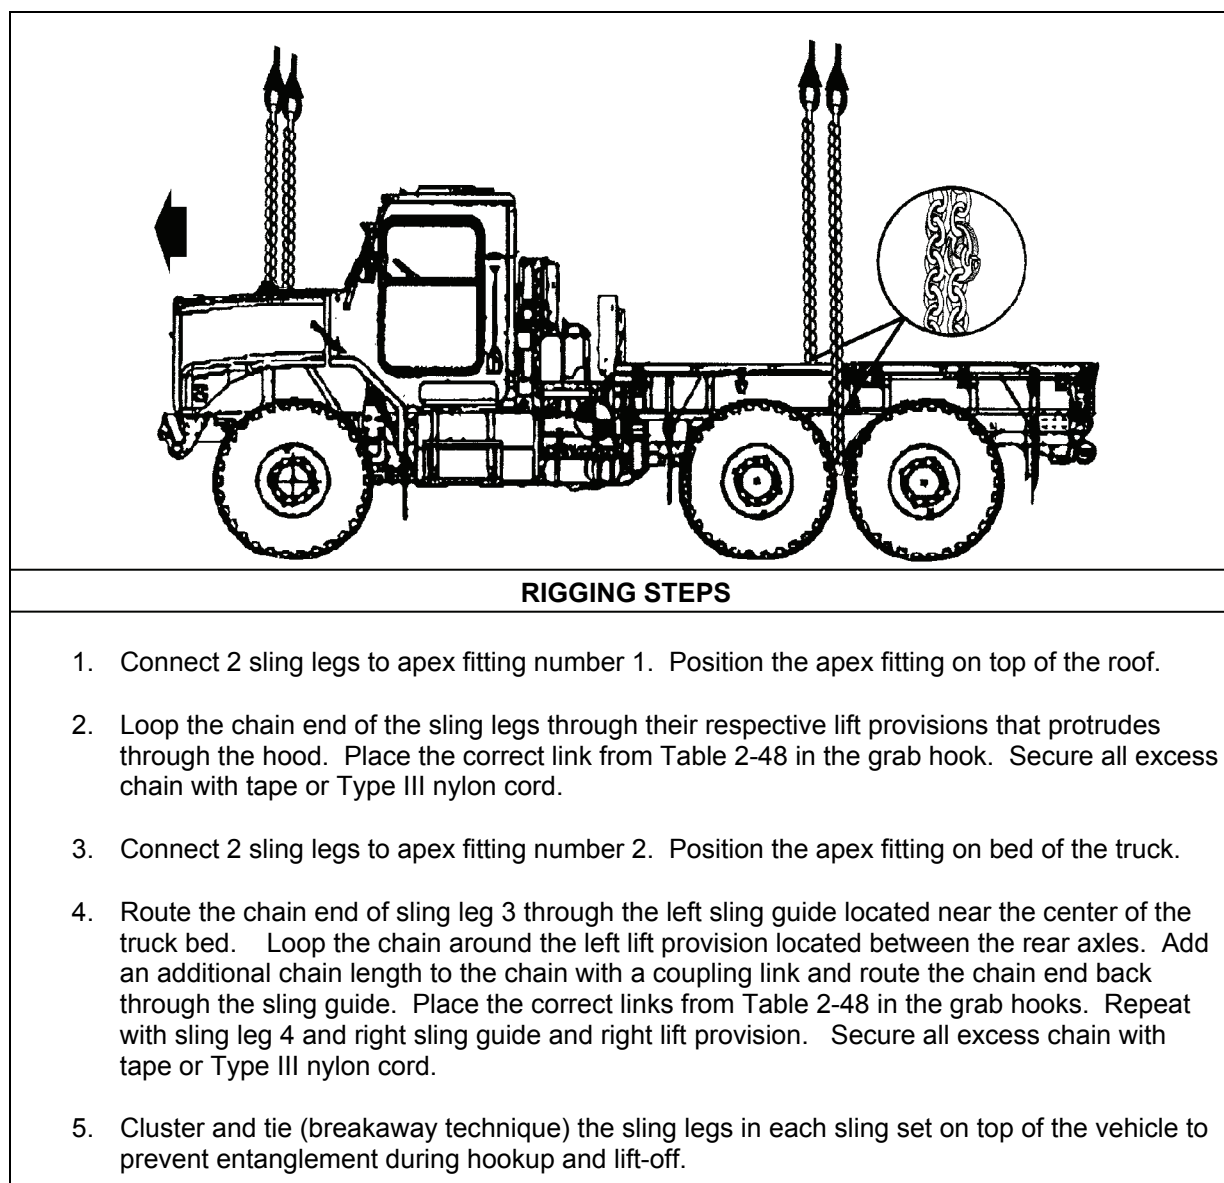

Figure 2-47. Medium Tactical Vehicle Replacement
- **Rigging.** Rig the load according to the steps in Figure 2-47.